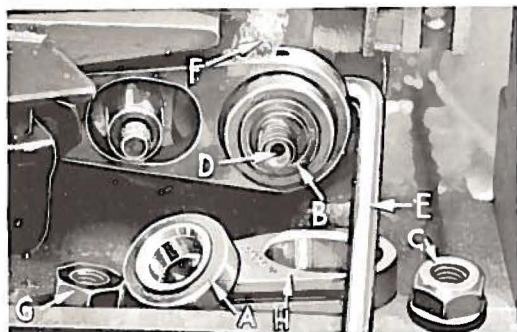

Fig. 15
If eccentrics are unusually tight fitting, in addition to removing nut (C, Fig. 15) from shaft (D), it may be helpful to remove nut (G) and feed driving connection (H). Then continue as originally suggested.